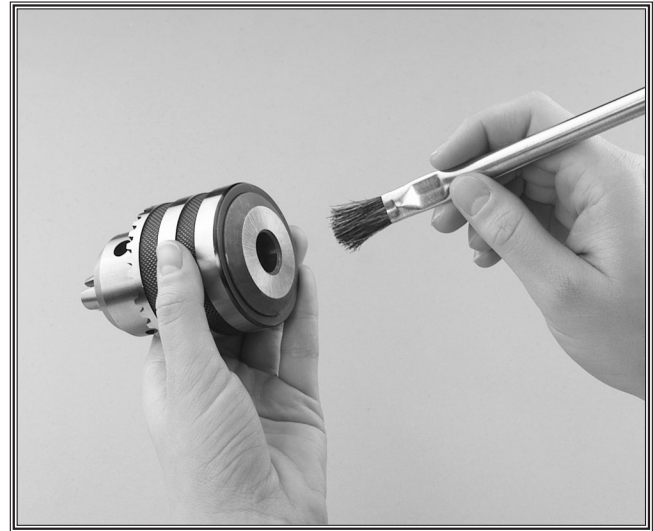

Figure 17. Clean the chuck before installation.
1. Clean the drill chuck and spindle with mineral spirits and follow all safety warnings on the container (see **Figure 17**).